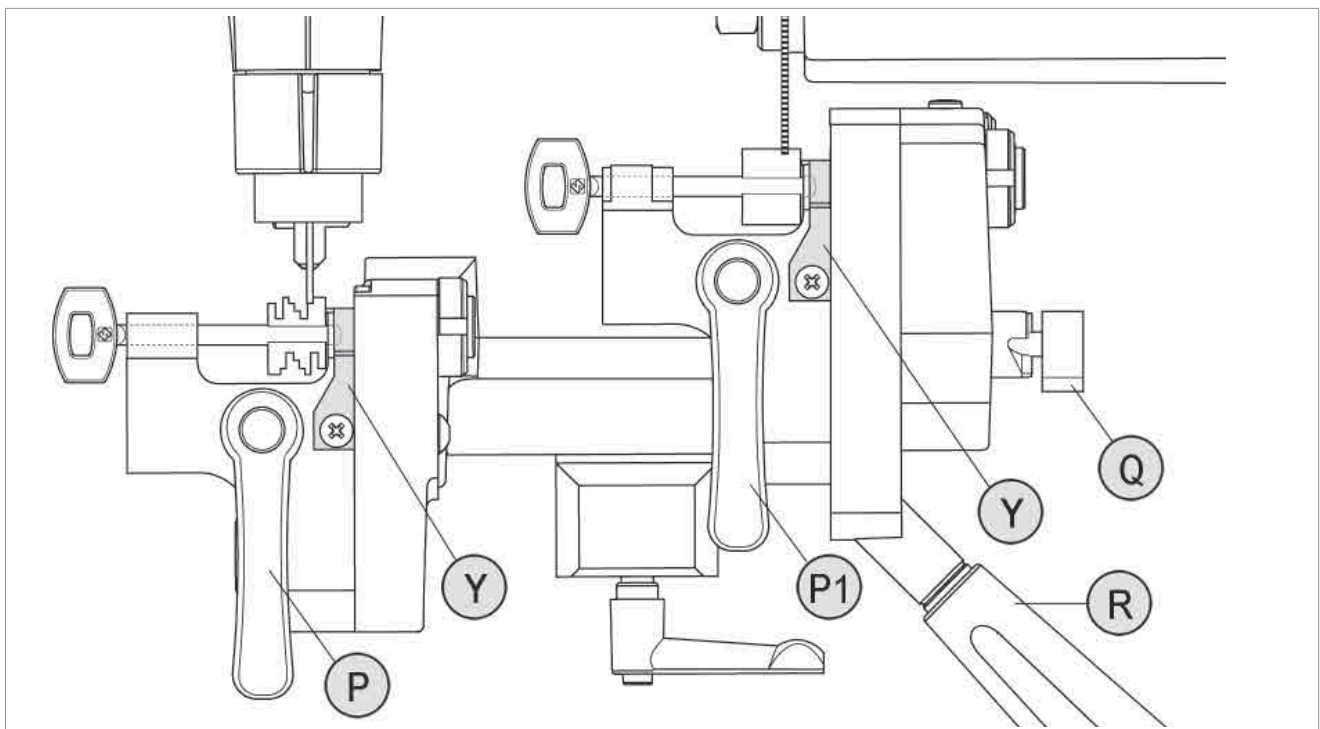

Fig.42
- 1) Use the lever (Q) to lock the right-hand clamp in the horizontal position.
- 2) Lock the key blank into the right-hand clamp (M1) (as shown) (Fig.42).
- 3) Raise the carriage and place the right-hand side of the bit against the cutter. Lock the carriage in this position with the knob (G).
- 4) Lock the original key into the left-hand clamp (M) (as shown), with the right-hand side of the bit up against the tracer point. In this way the two keys will be perfectly aligned (Fig.42).
- 5) Release the knob (G) and take the carriage all the way back.
- 6) Lower the lever (Q) to release the right-hand clamp.
- 7) Turn on the machine with the ON/OFF switch (A).
- 8) Use the lever (L) to slowly take the carriage towards the cutter and press the button (B) to start the motor.
- 9) Hold the lever (R) slightly raised with the key facing downwards.
- 10) Take the cut closest to the original key tip against the tracer point (do not apply force, remember that the key tip is not held) and lower the lever (R) to round off the cut.